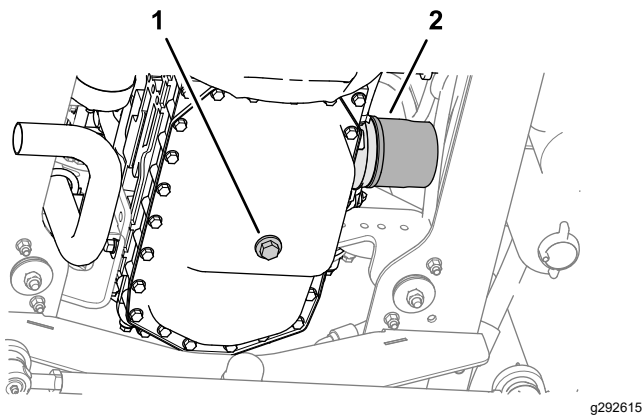

Figure 55
- Remove the drain plug and let the oil flow into a drain pan (Figure 55).